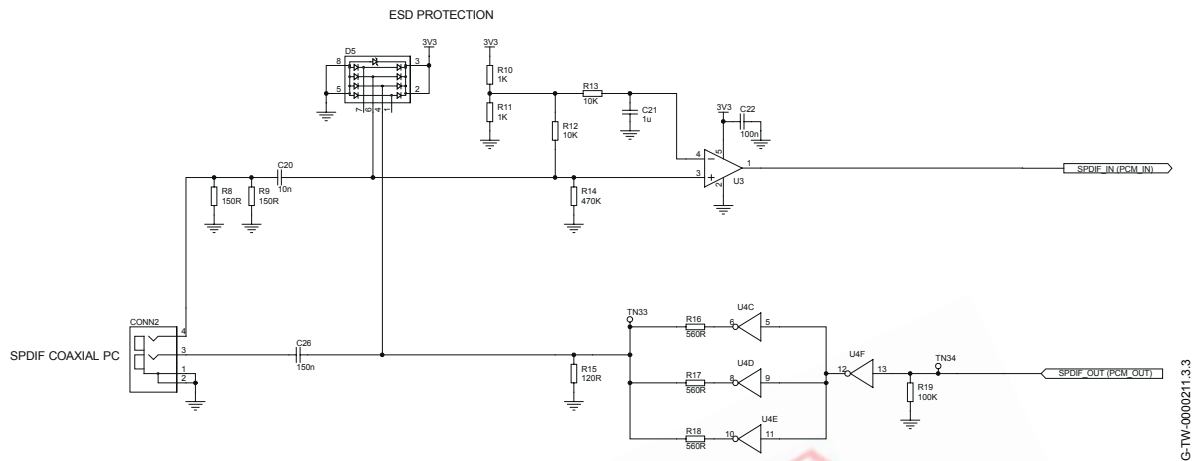

Figure 10.4: Example Circuit for SPDIF Interface (Co-Axial)
- A 75Ω coaxial cable with an RCA connector, see Figure 10.4